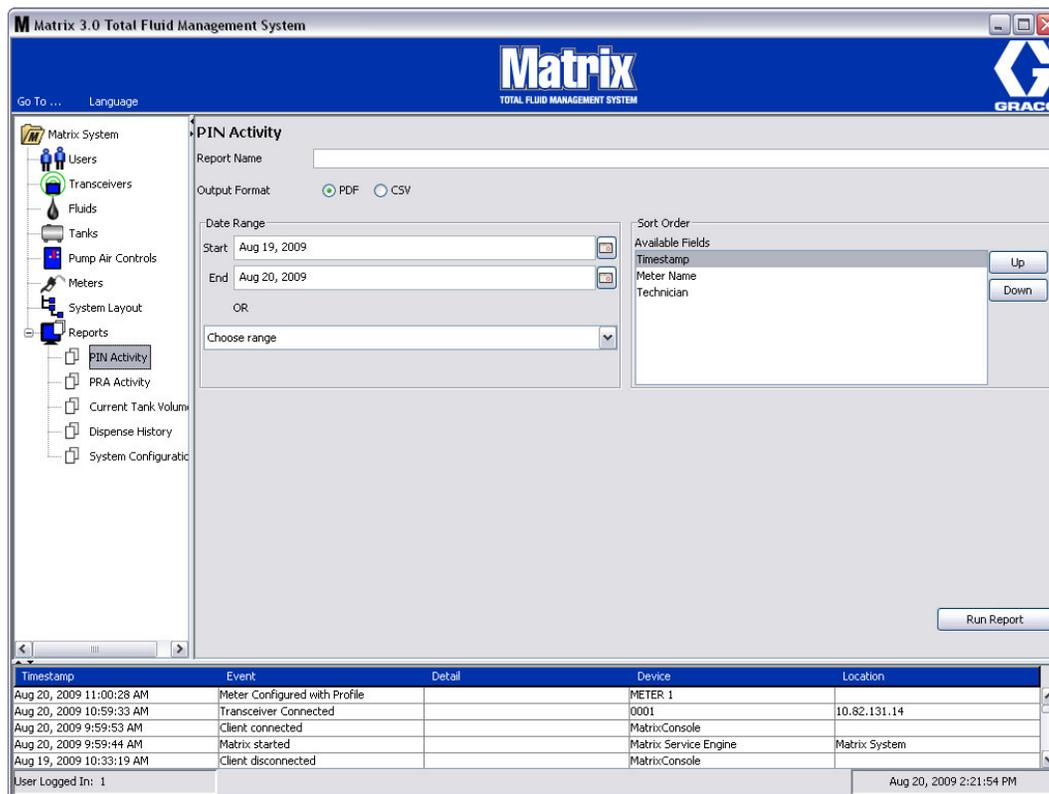

FIG. 101
- **PIN Activity (FIG. 101):**